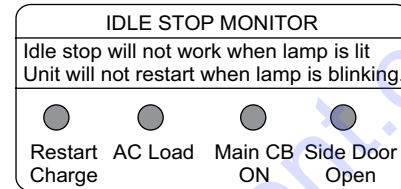

Figure 42. Idle Stop Monitor
- The idle stop function **will not work** if the following lamps are **ON** or **BLINKING** as referenced in Figure 42 and below:
- If any of the status lamps as referenced in Figure 42 are **ON**, correct the problem before using the idle stop function.